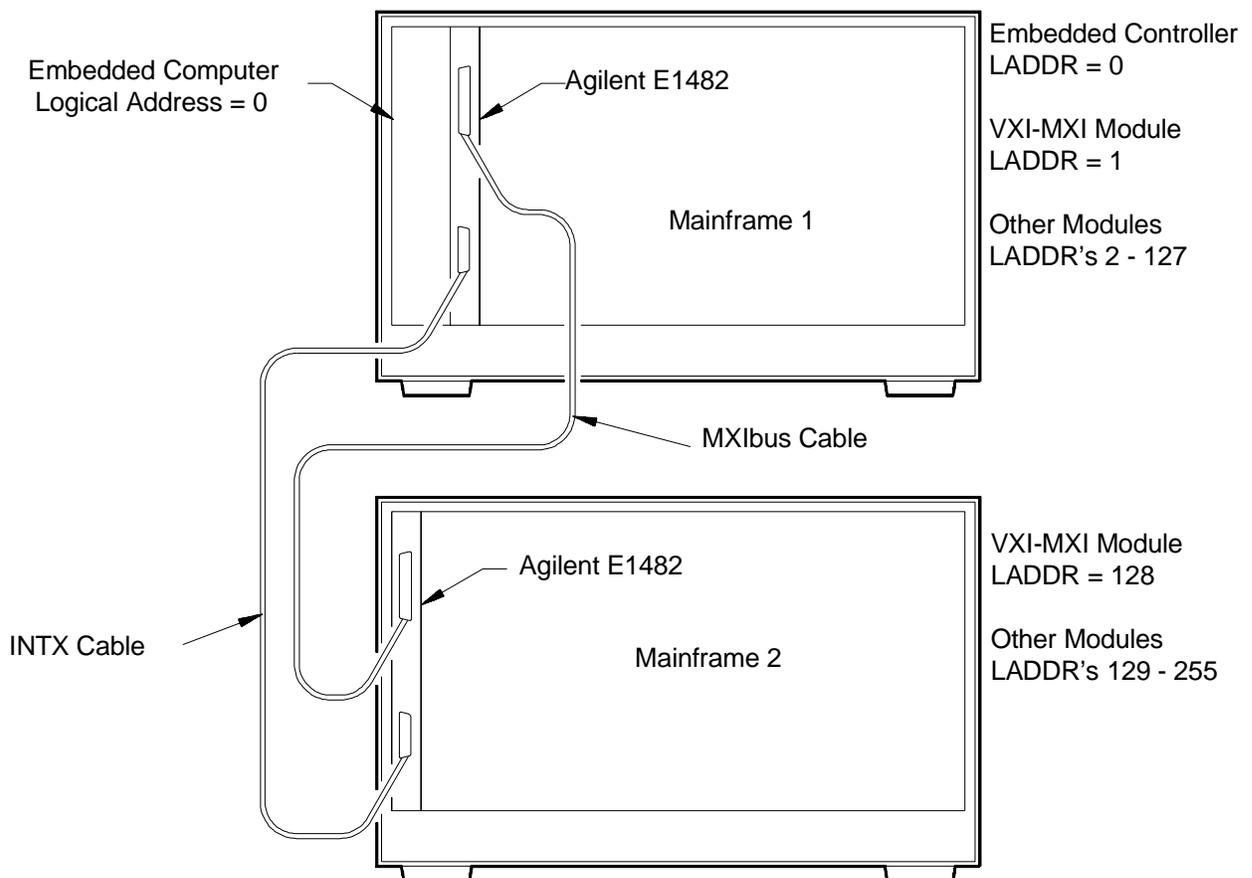

Figure 3-18. Embedded V743 2-Frame
- 2-Frame - Agilent V743 (Figure 3-18)